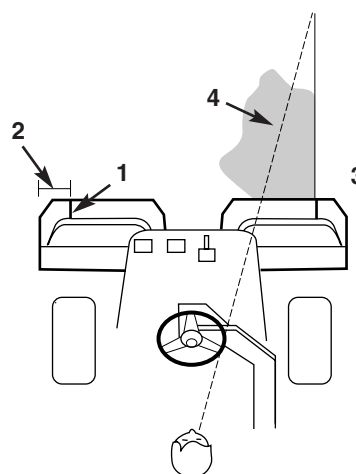

Figure 14
2. Either place a strip of white tape or paint a line onto each basket paralleling the outer edge of each basket (Fig. 14).
3. Overlap a minimal amount with the previous cut on return passes. To maintain a straight line across the green and keep the machine an equal distance from the edge of the previous cut, establish an imaginary sight line approximately 6 to 10 feet (1.8 to 3 m) ahead of the machine to the edge of the uncut portion of the green (Fig. 14, 15). Some find it useful to include the outer edge of the steering wheel as part of the sight line; i.e., keep the steering wheel edge aligned with a point that is always kept the same distance away from the front of the machine (Fig. 14, 15).